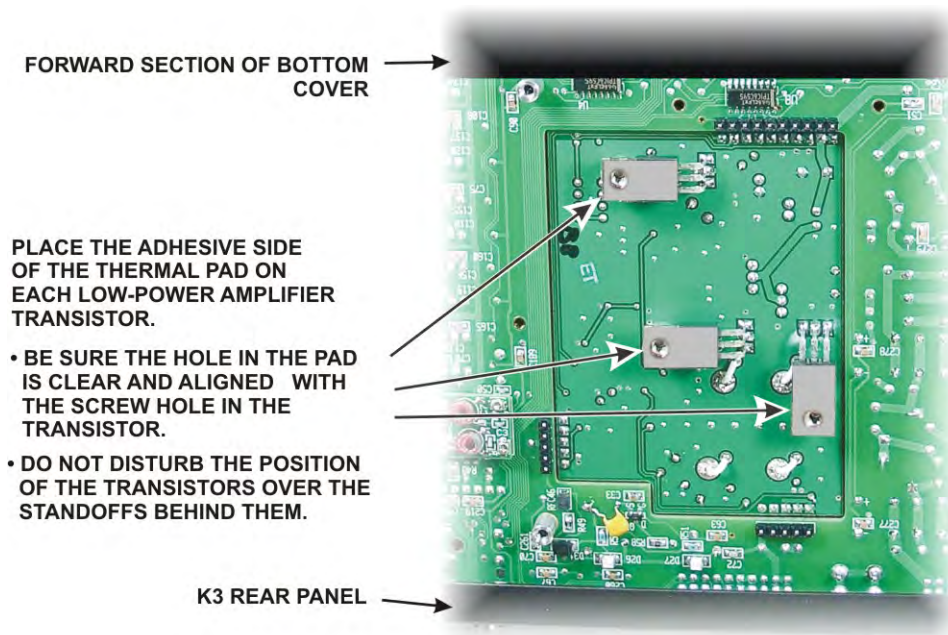

Figure 92. Installing the Low Power Amplifier Transistor Thermal Pads.
□ Locate the three thermal pads and clear the screw holes. They are already cut. If material is still covering the holes, push a small tool through the hole to remove the unwanted material. Remove the protective backing from each pad and press the adhesive side against a low-power amplifier transistor with the hole in the pad aligned with the screw hole in the transistor as shown in Figure 92. Take care not to disturb the position of the transistors over the standoffs.